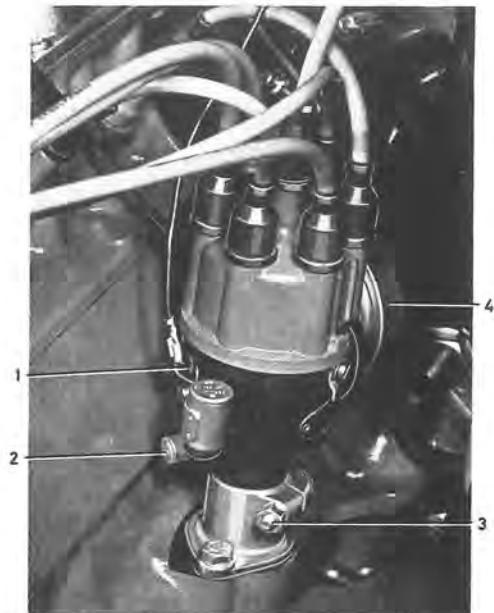

Fig. 3-47. Distributor, B 30 A
The distributor is mounted on the left-hand side of the engine, see Figs. 3-47 and 3-48, and is driven from the camshaft. The setting of the distributor in relation to engine speed is regulated by a centrifugal governor fitted under the breaker plate. Adjustment in relation to loading is controlled by a vacuum regulator mounted outside the distributor (4, Figs. 3-47 and 3-48).
2. Remove the primary lead from the primary connection (1, Fig. 3-47).
3. Slacken the screw (3, Fig. 3-47) and pull up the distributor.